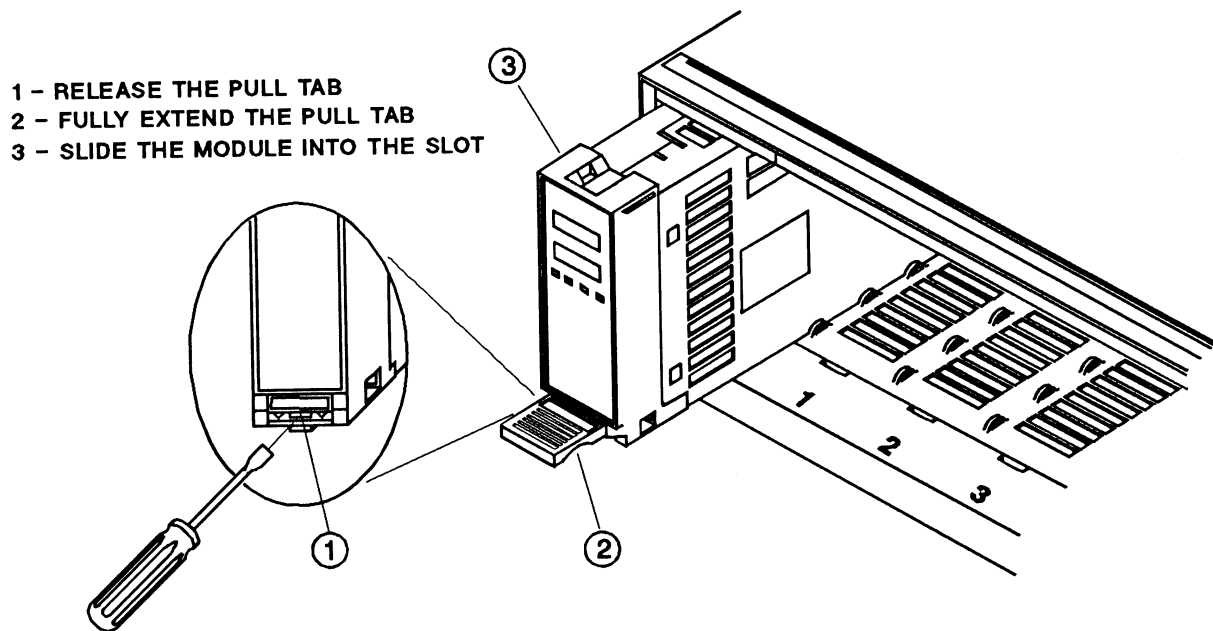

Figure 2-5. Module Pull Tab
All modules install through the front of the mainframe. Installation (and removal) can be accomplished even when the mainframe is rack-mounted. To install the modules in the mainframe, refer to Figure 2-5 and proceed as follows:
- Use a flat-bladed screwdriver and release the pull tab by pressing down (see Figure 2-5).